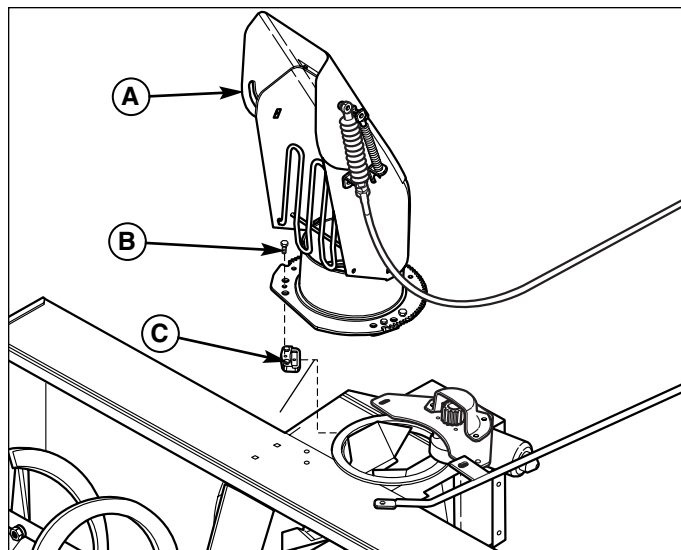

Figure 14. Discharge Chute Assembly
1. Locate the discharge chute (A, Figure 14), three hold-down plates (C), and plastite screws (B).
3. Install the discharge chute onto the chute ring, facing it straight forward over the auger housing, and secure it using the hold-down plates (C) and plastite screws (B). Be careful not to over-tighten the screws.